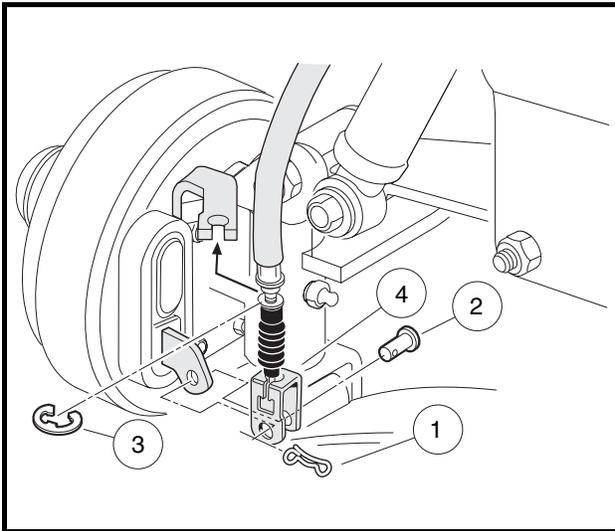

Figure 7-20 Connect Front Brake Cables
- 2.1. Remove the cotter pins (1), brake cable clevis pins (2), and cable retaining clips (3). Remove the brake cables (4) from the spindle brackets (**Figure 7-20, Page 7-17**).
7. **Vehicles with four-wheel brakes:** Connect the front brake cables on four-wheel brake vehicle in reverse order of disassembly (**Figure 7-20, Page 7-17**).